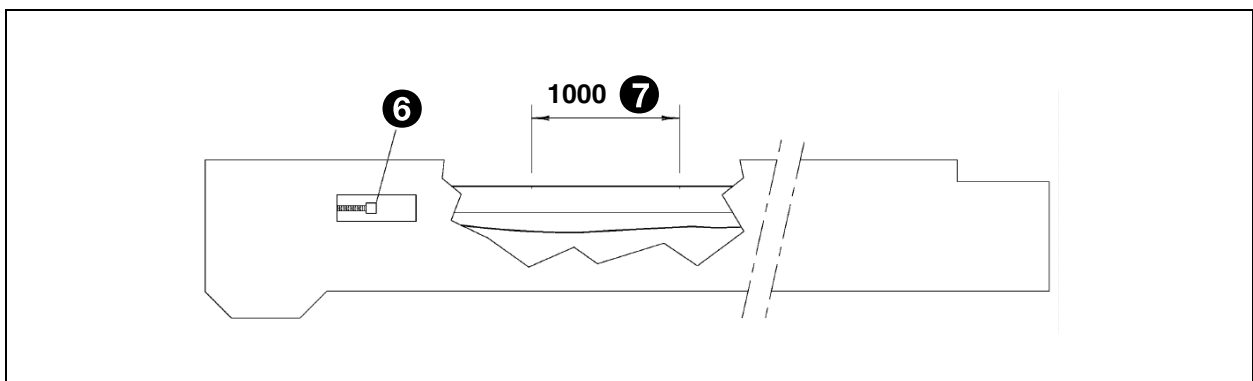
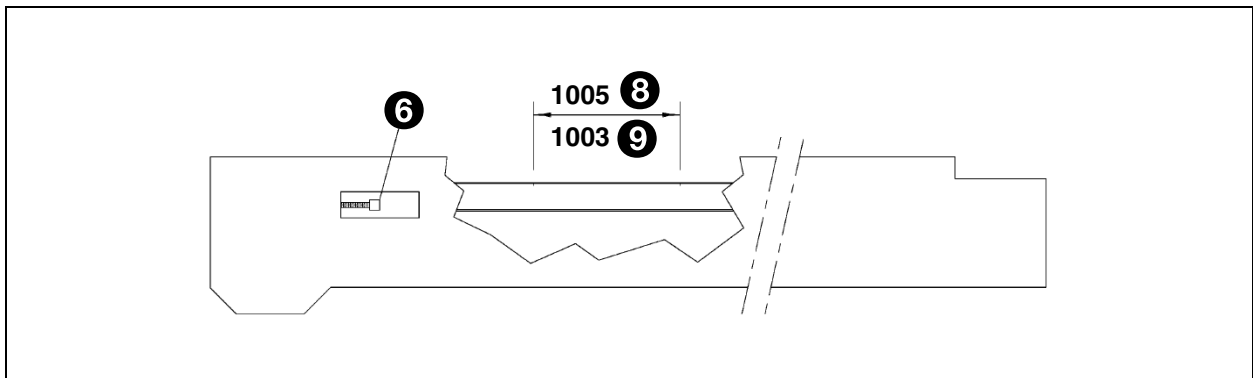

Fig. 212 - Tensioning belts of type 018741.. and 018751..
Fig. 213 - Tensioning belts of type 018742.., 018745 .. and 018746..
2. Make 2 marks on the untensioned belt at a given distance from each other (for example, 1000 mm (6), see fig. 212.)
3. Use the adjustment bolts (6) to tension the belt such that it stretches by 0.5%.
With this stretch the dimension 1000 mm (7) must then be 1,005 mm (8), see fig. 213.
2. Make 2 marks on the untensioned belt at a given distance from each other (for example, 1000 mm (7), see fig. 212.)
3. Use the adjustment bolts (6) to tension the belt such that it stretches by 0.3%.
With this stretch the dimension 1000 mm (7) must then be 1,003 mm (9), see fig. 213.